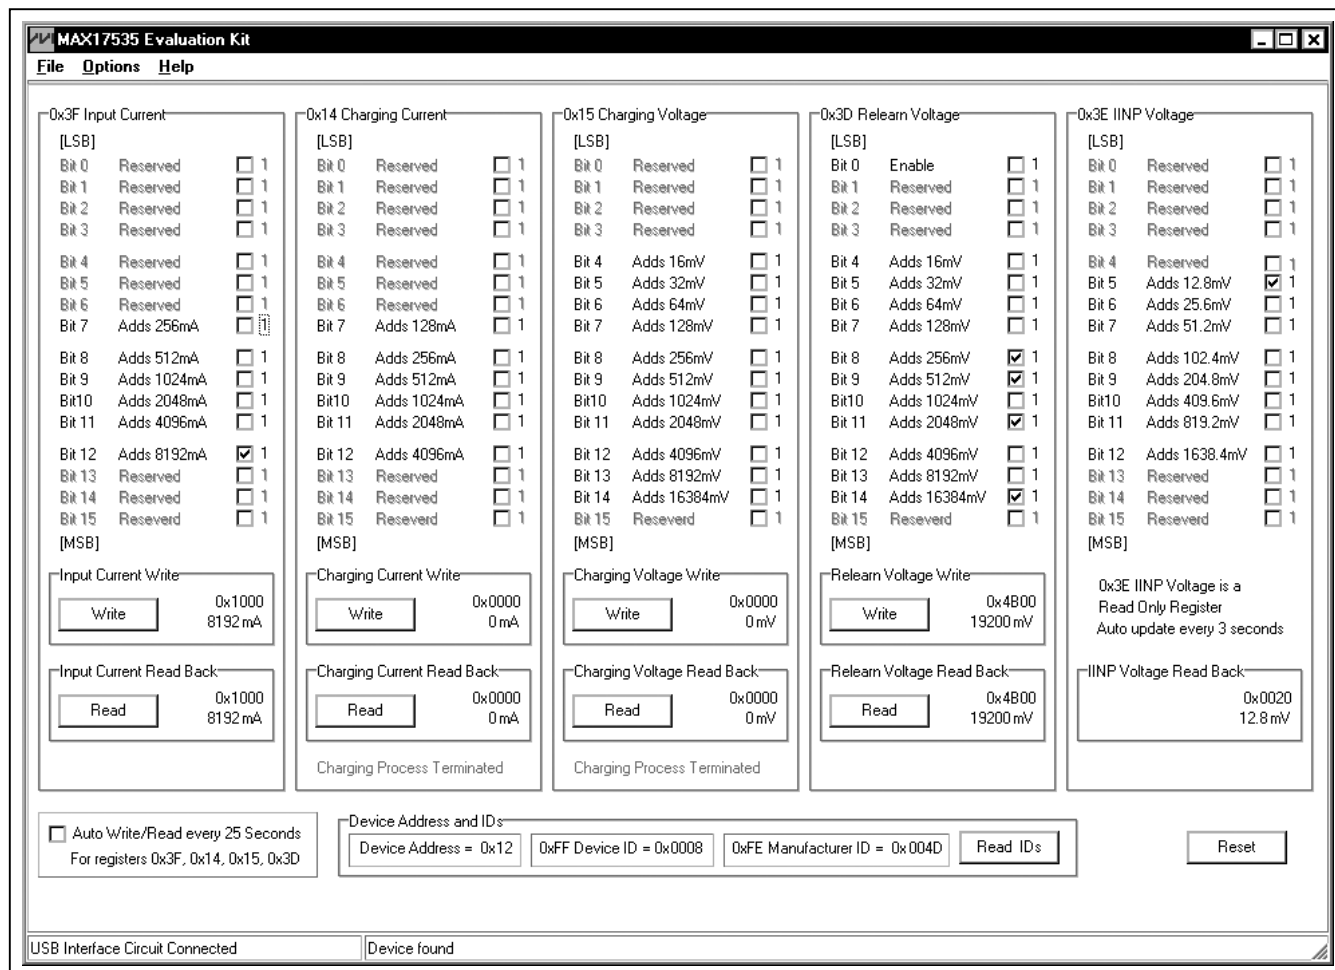
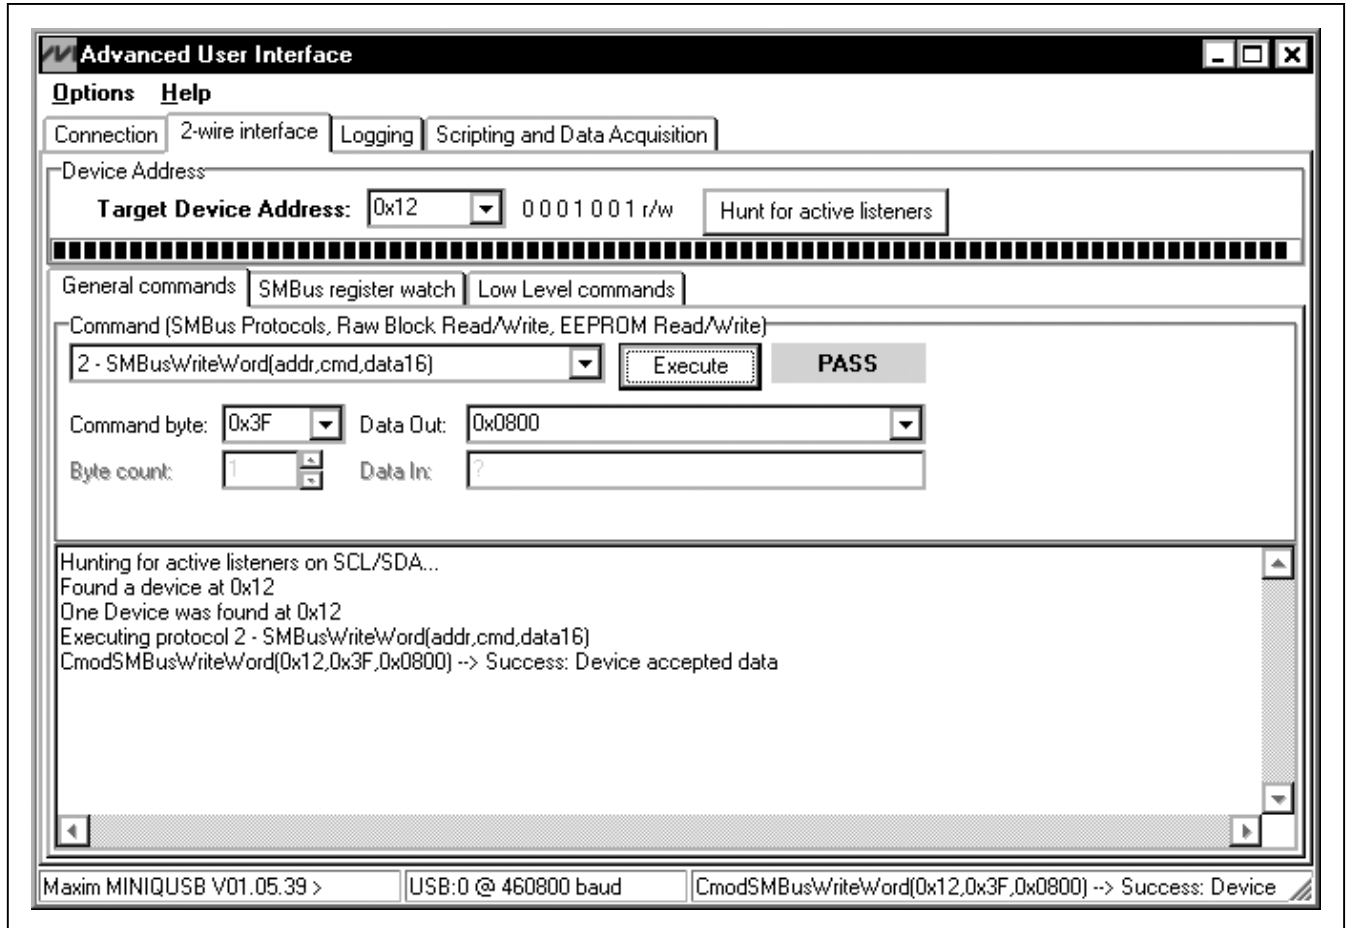

Figure 1. MAX17535 Evaluation Kit Software Main Window
Figure 3. Simple Low-Level 2-Wire Interface
- 12) Observe as the program automatically detects the connection of the device and starts the main program. After successful connection, the EV kit software main window appears in the upper-left corner of the window, as shown in Figure 1.
The GUI shown in Figure 1 is the main window of the EV kit software that provides a convenient means to control the MAX17535 IC. Use the mouse or press the tab key to navigate through the GUI controls. The correct SMBus write operation is generated to update the IC's internal memory registers when any of these controls are executed.
The EV kit software main window (Figure 1) divides the EV kit functions into logical group boxes. The **0x3F Input Current** group box sets and reads back the adapter input-current limit on the EV kit. The **0x14 Charging Current** group box sets and reads back the battery-charging current on the EV kit. The **0x15 Charging Voltage** group box sets and reads back the battery-charging voltage on the EV kit. The **0x3D Relearn Voltage** group box enables/disables and sets and reads back the battery-relearn voltage on the EV kit. The **0x3E IINP Voltage** group box displays the input-current monitor output (IINP voltage) on the EV kit. The **Device Address and IDs** group box reads and displays the device address, device ID, and manufacturer ID of the IC. The **Auto Write/Read every 25 Seconds** checkbox automatically sends a write and read command every 25s to update and read back the data to and from registers 0x3F, 0x14, 0x15, and 0x3D. The bottom-left status bar of the main window provides the USB interface circuit communication status. The bottom-right status bar indicates the presence or absence of the IC.
There are two methods for communicating with the EV kit, through the normal user-interface panel (Figure 1) or by using low-level SMBus commands available through the **Advanced User Interface 2-Wire Interface** tab (Figure 3) from the main program's **Options | Interface (Advance Users)** main menu. A window is displayed that allows SMBus operations, such as **SMBusReadWord** and **SMBusWriteWord**.
Note: The SMBus dialog boxes accept numeric data in binary, decimal, or hexadecimal. Hexadecimal numbers must be prefixed by \$ or 0x. Binary numbers must be exactly eight binary digits. See Figure 3 for an example of this tool. Figure 3 shows a simple SMBus write-word operation using the included 2-wire interface diagnostics tool. In this example, the software is writing data 0x0800 to the register address 0x3F (input current) to the device with the device address 0x12. The data sequence sets the IC's input current to 4096mA.